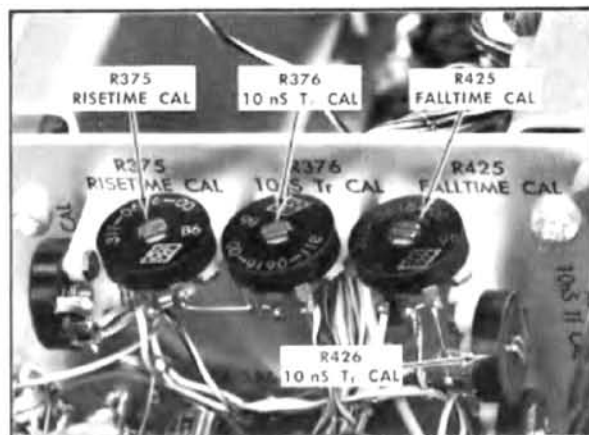

Fig. 5-13. Location of risetime and falltime adjustments on the right side of the Type 115 chassis subpanel.
v. ADJUST—R375, RISETIME CAL adjustment, (see Fig. 5-13) if the risetime is not correct.
z. ADJUST—R425, FALLTIME CAL adjustment, (see Fig. 5-13) if the falltime is not correct.